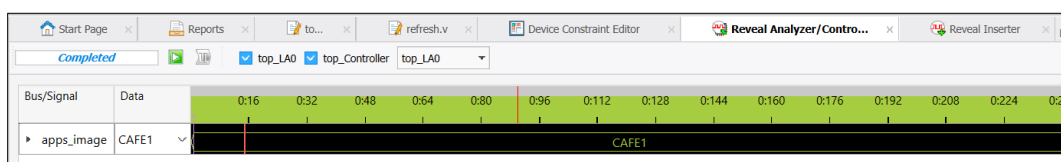

Figure 7.3. apps_image Showing CAFE1
- c. Open the waveform tab and apps_image displays CAFE1, indicating that Primary Image is running on the device (Figure 7.3).
5. Run Reveal Analyzer by clicking the  button and return to the waveform tab. The apps_image still displays CAFE1 and LED D3 is blinking, indicating that Alternate Pattern 1 is running on the device (Figure 7.3).